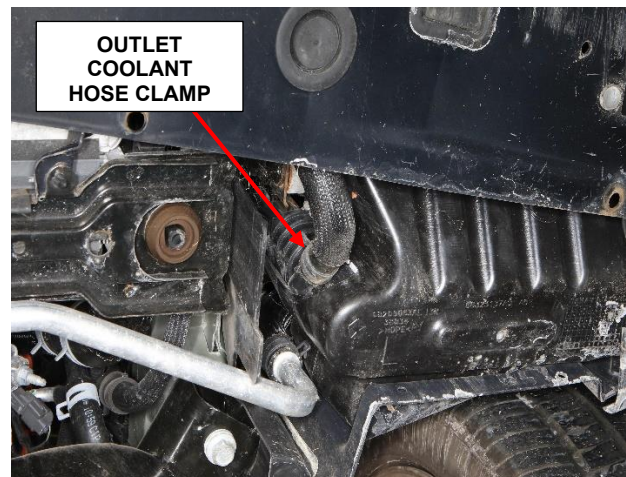

Figure 4 – Low Temperature Radiator
7. Remove the outlet coolant hose clamp from the auxiliary Low Temperature Radiator (LTR) and drain the coolant into a clean container (Figure 4).